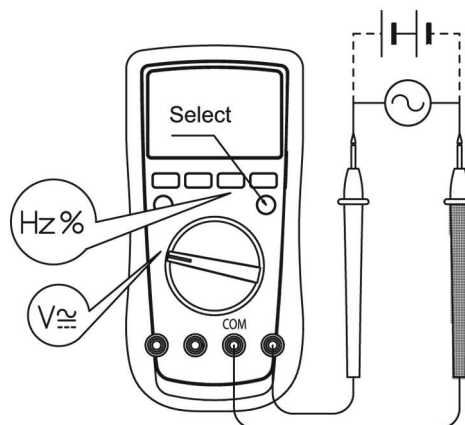

figure 2
A. DC/AC Voltage Measurement (See figure 2)